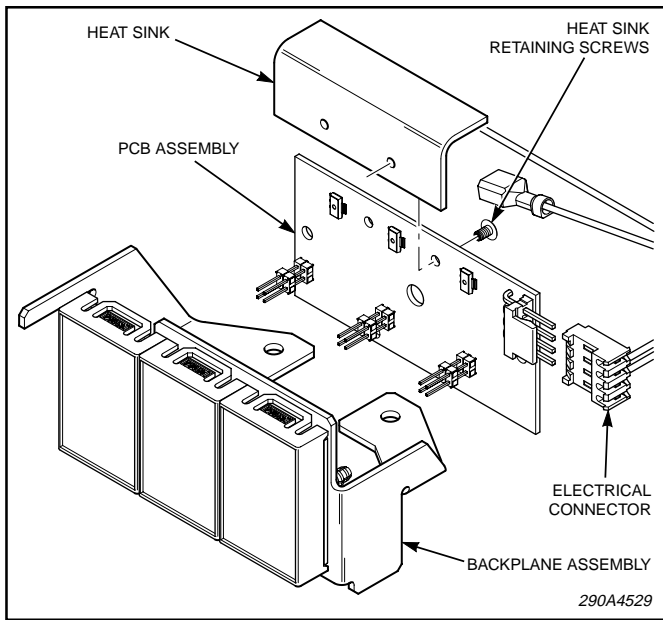

Figure 8.
- b. See figure 8. Disconnect the electrical connector from the PCB assembly.